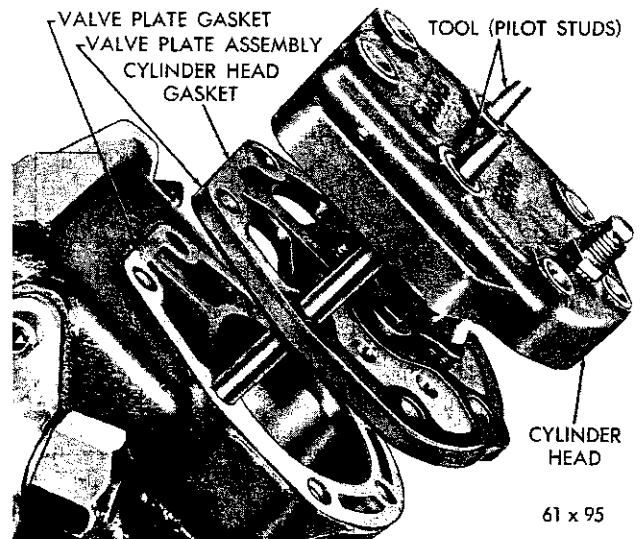

Fig. 41—Installing the Valve Plate and the Cylinder Head
(2) Dip the gaskets in clean refrigerant oil. Using the pilot studs as a guide, install the valve plate gasket, valve plate, cylinder head gasket and cylinder head, as shown in Fig. 41.
(3) Install the attaching bolts. Tighten each bolt alternately and evenly 23 to 27 foot-pounds torque.